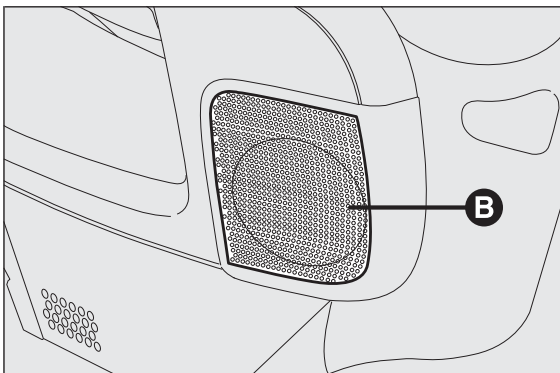

fig. 140
- ☐ 2 mid-woofers B located in the front doors (165 mm diameter, 40 W max power each) fig. 140;